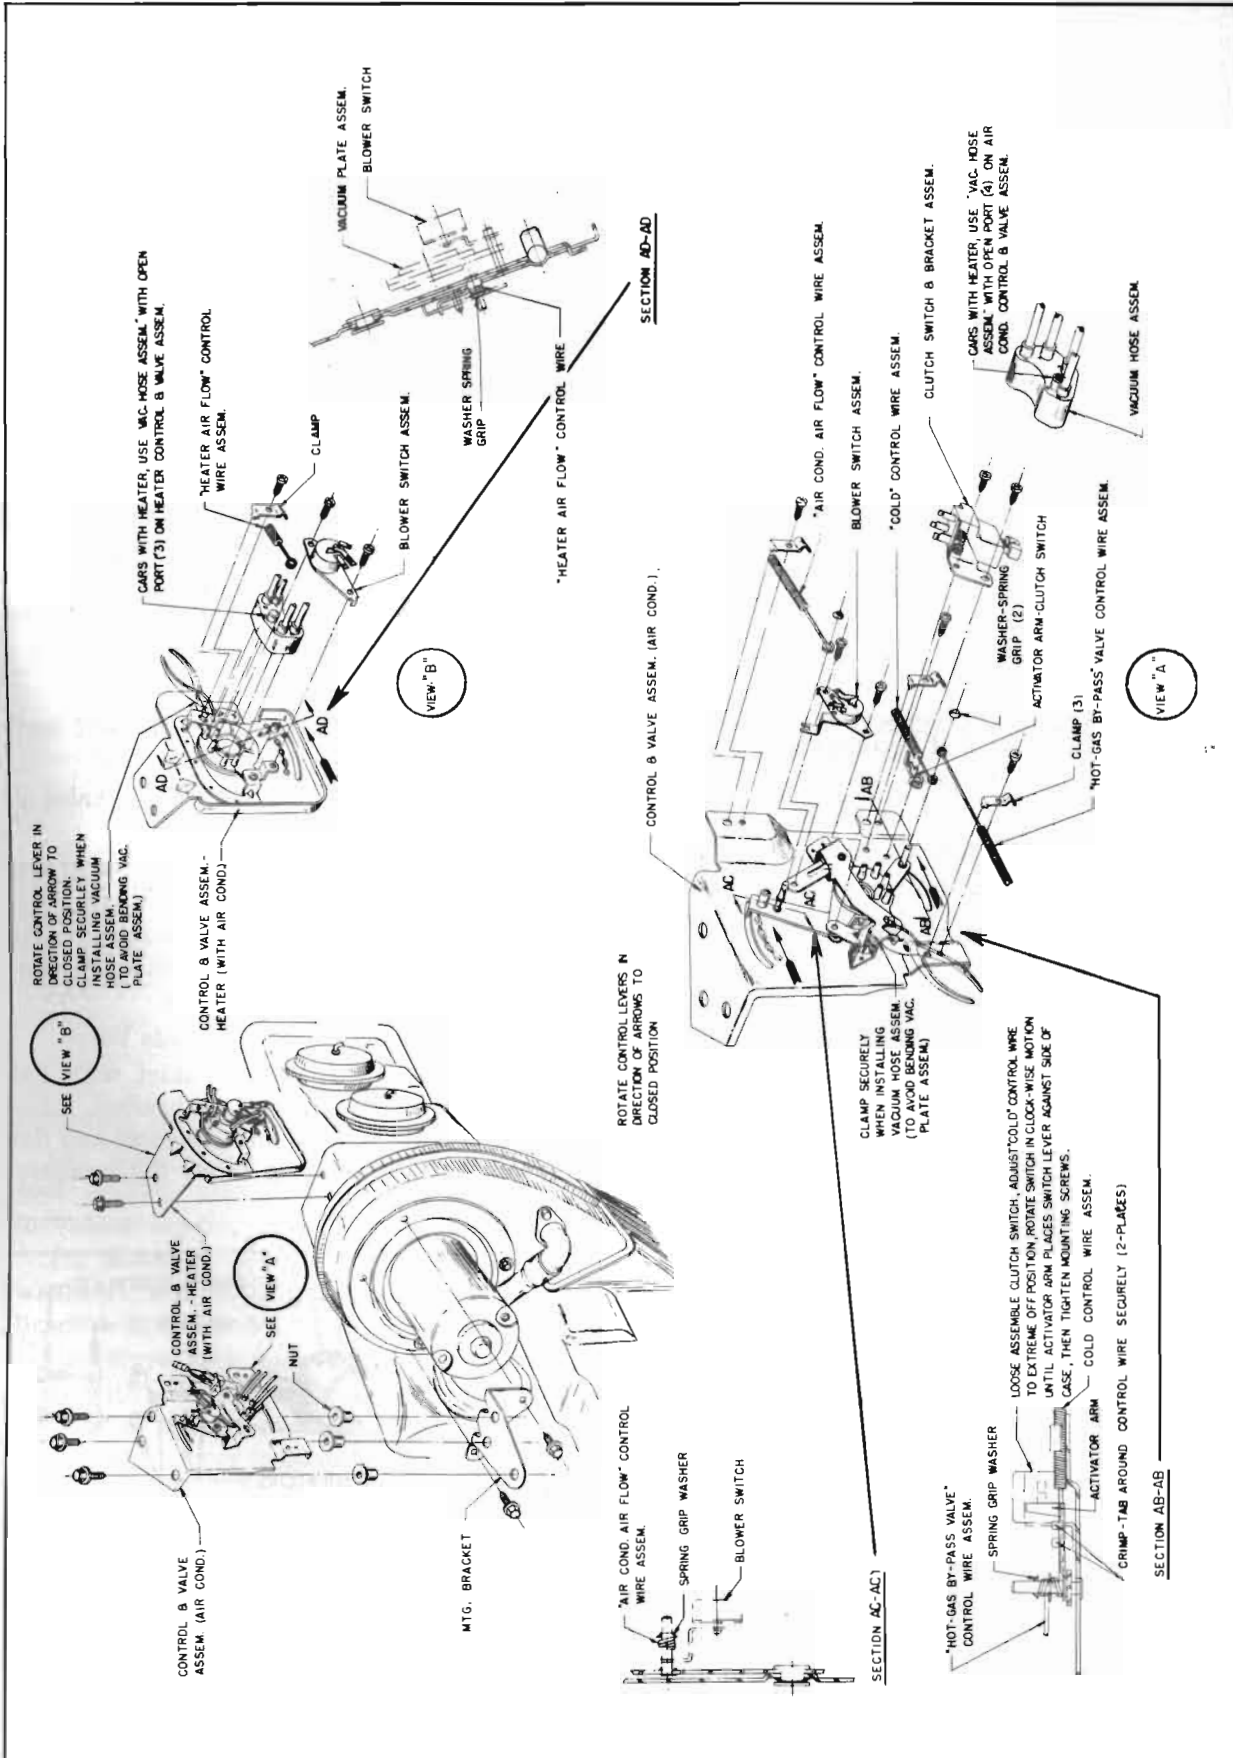

Figure 11-50—Air Conditioner Control and Valve Assemblies
the system is used only for ventilation ("Cold" lever off). If the system is to be used for ventilation only (no cooling) the "cold" lever is positioned in the off position, and the air flow lever positioned in any of three detent positions. The first detent opens the air valves and sets the blower in operation at low speed. Further movement of the lever provides medium blower speed and the full on position, high blower speed. See Figure 11-50.
4. *Control Adjustment.* See Figure 11-50.
(b) Adjust compressor clutch switch position as shown in Figure 11-50.